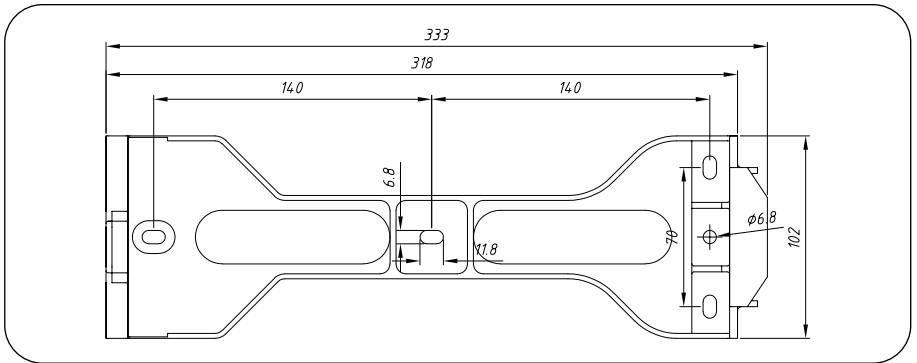
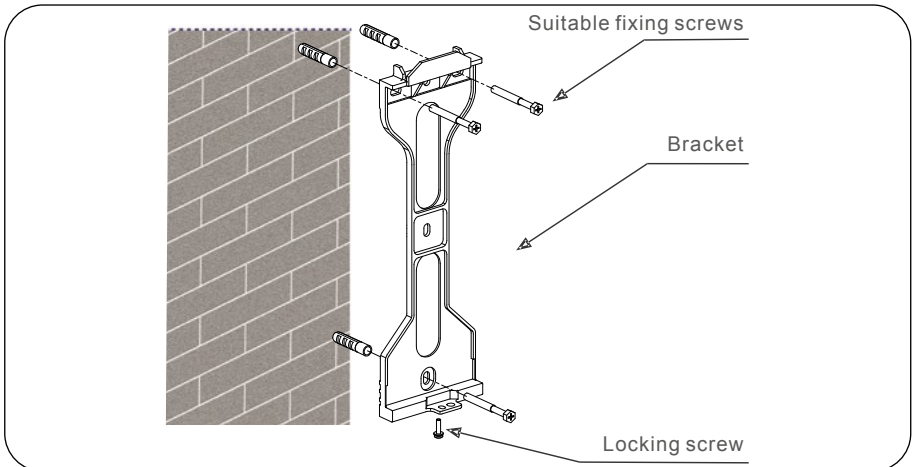

Figure 10 - Dimensions of mounting bracket
Figure 11 - Fix bracket on the wall
Once a suitable location has been found (accordingly to “4.1 Select a Location for the Inverter” at page 16) using Figure 10 and Figure 11, mount the wall bracket to the wall.
- After positioning the inverter on the bracket, lock it with the screw supplied in the lower part as shown in Figure 11.